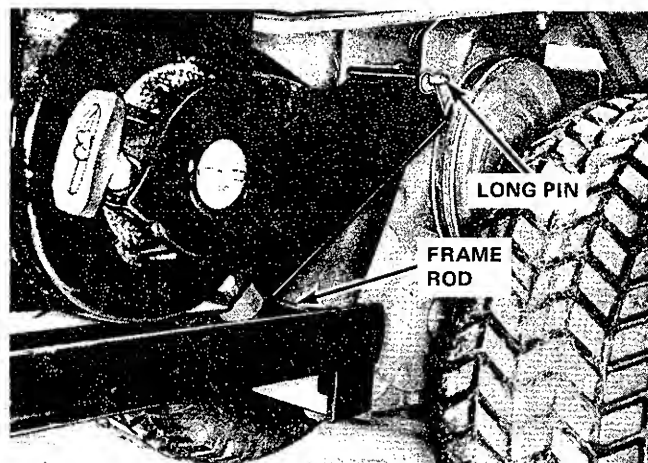

FIGURE 3
2. Install the engine and blower assembly on the tractor. Tilt it back and engage the lower frame rod in the hitch slots. Tilt it forward to align the blower frame holes with the mating holes in the seat support. Insert the long pin and secure with two spring clips. (See Figure 3)